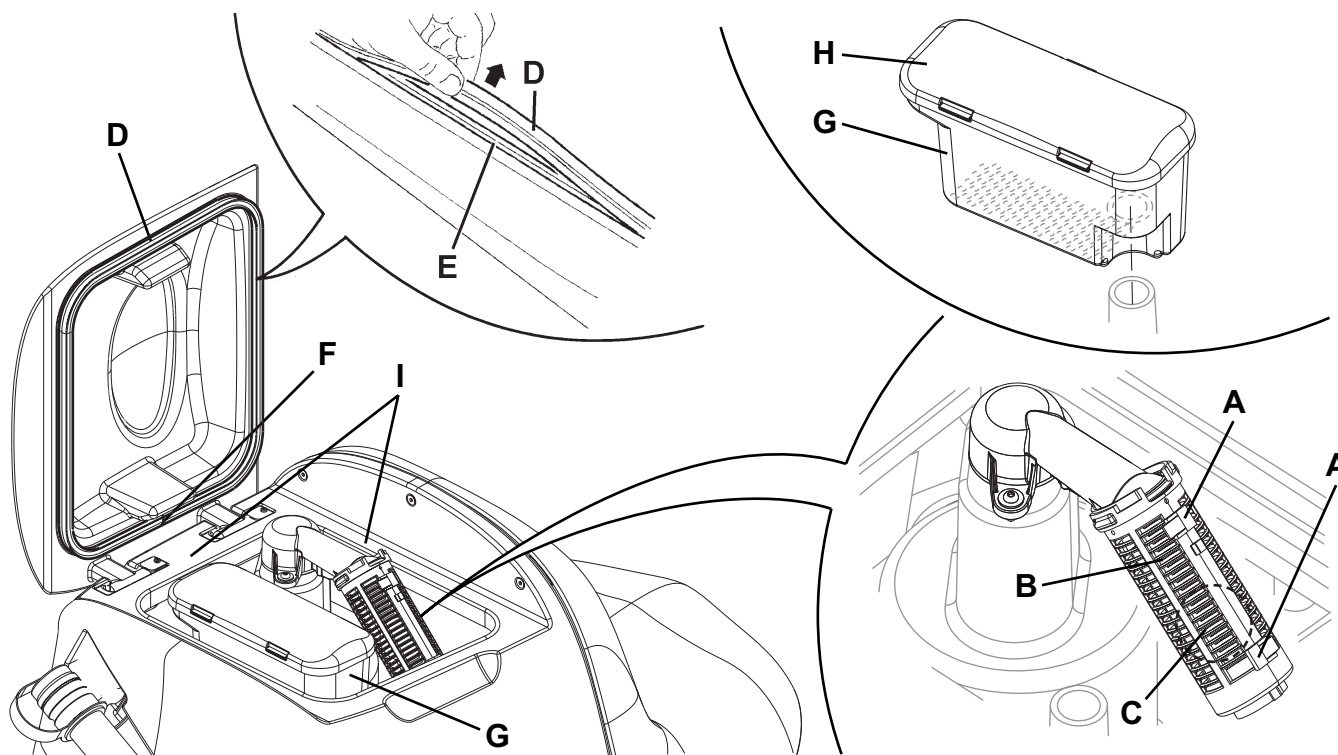

Figure 6
2. Insert the ignition key (58) and turn it to "I".
3. Lower the squeegee (30) by pressing the push-button (63).
4. Turn the ignition key (58) to "0".
5. Disconnect the vacuum hose (31) from the squeegee.
6. Loosen the handwheels (34) and remove the squeegee (30).
7. Wash and clean the squeegee. In particular, remove dirt and debris from the compartments (A, Fig. 6) and the hole (B). Check that the front blade (C) and the rear blade (D) are integral and free from cuts and lacerations; if necessary replace them.
1. Clean the squeegee (Fig. 6) as shown in the previous paragraph.
2. Check that the edge (E) of the front blade (C) and the edge (F) of the rear blade (D) lay down on the same level, along their length; otherwise adjust their height according to the following procedure:
- Remove the tie rod (G), disengage the fastener (M) and adjust the rear blade (D); then engage the fastener and install the tie rod.
- Loosen the handwheels (I) and adjust the front blade (C), then tighten the handwheels.
3. Check the front blade (C) and rear blade (D) for integrity, cuts and tears; otherwise replace them according to the following procedure. Check the front corner (J) of the rear blade for wear; if necessary, overturn the blade to replace the worn corner with an integral one. If the other corners are worn too, replace the blade according to the following procedure:
- Remove the tie rod (G), disengage the fastener (M) and remove the retaining strip (K), then replace/overturn the rear blade (D).
- Unscrew the handwheels (I) and remove the retaining strip (L), then replace the front blade (C).
5. Clean the vacuum grid (27), release the fasteners (A, Fig. 6), open the grid (B) and recover the float (C) then clean carefully and reinstall.
6. Clean the container with debris collection grid (26), remove the container (G), remove the cover (H), then clean carefully and reinstall the vacuum hose.
7. Check the tank cover gasket (D) for integrity.